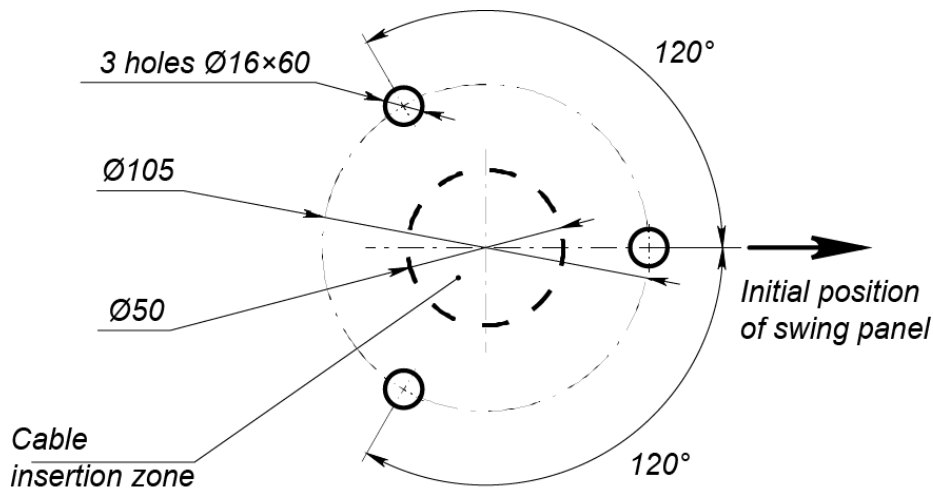

Figure 10. Mounting hole pattern for installation of the swing gate¹
2. Mark and prepare mounting holes in the floor as per Fig. 10 for anchor sleeves (9) to install the gate post. If necessary, use the supplied marking template.
4. If it is necessary to lay power (13) and control cables (14) underneath the floor surface, prepare a cable duct in the floor leading towards the zone where cables are inserted into the gate post. The cable laying zone positioning is given in Fig. 10.
6. Guide the power and control cables through the cable duct towards the cable insertion zone. Pull cables inside the fixed base (1) to the length appropriate for following installation on the control board (6).